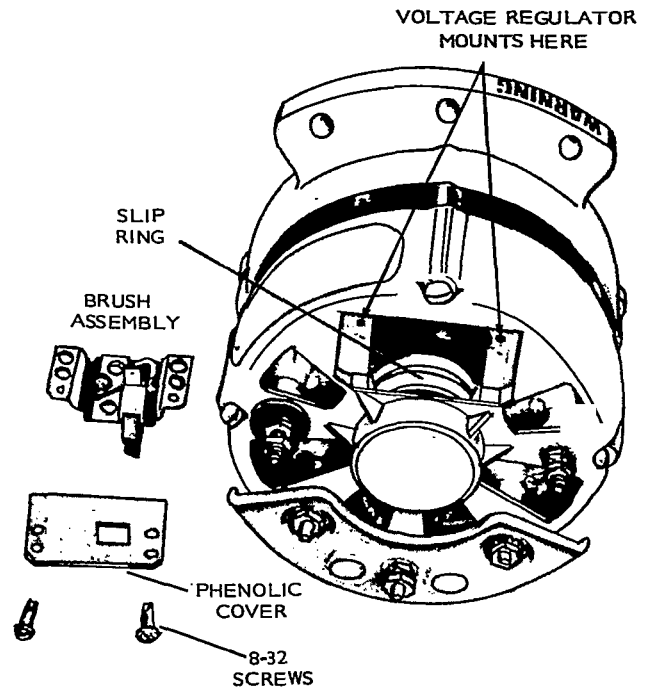

FIGURE 48. OPTIONAL, BATTERY CHARGING, EXTERNAL ALTERNATOR
5. Reverse procedure for assembly (Figure 48).